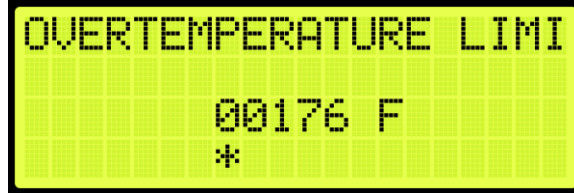

Figure 320: OVERTEMPERATURE LIMIT Menu
5. From the OVERTEMPERATURE LIMIT menu, enter the maximum temperature (See Figure 320).